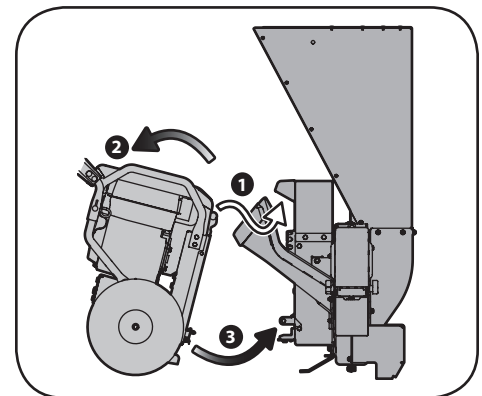

Figure 4-3
2. Roll the FLEX™ Power Base forward and tip it up, engaging the top part of the chipper shredder attachment with the handle mount provided on the FLEX™ Power Base (1 of Figure 4-3).
3. Tip the FLEX™ Power Base backwards to engage the two bottom connection points (2 and 3 of Figure 4-3).